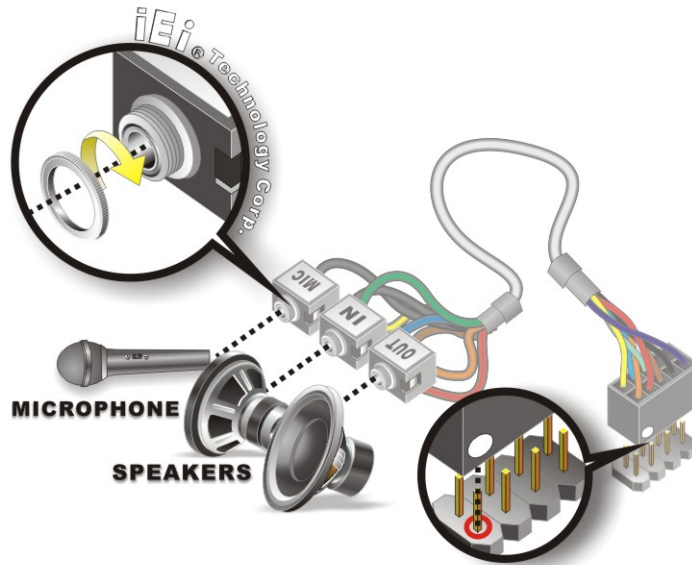

Figure 4-16: Audio Kit Cable Connection
Step 2: **Align pin 1.** Align pin 1 on the on-board connector with pin 1 on the audio kit connector. Pin 1 on the audio kit connector is indicated with a white dot. See **Figure 4-16**.